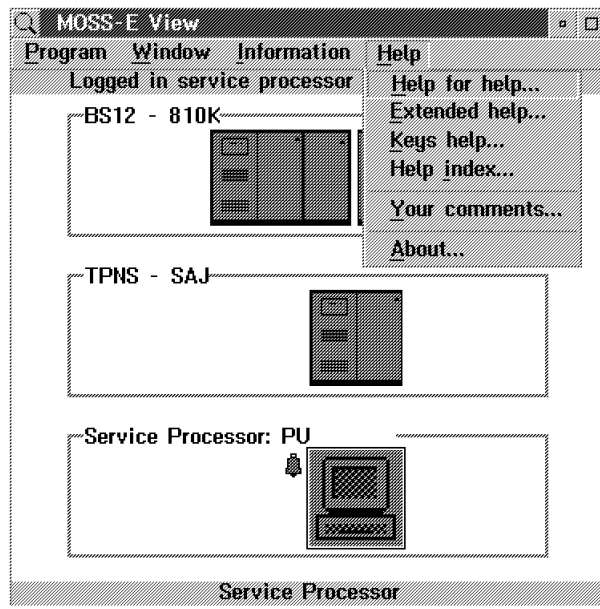
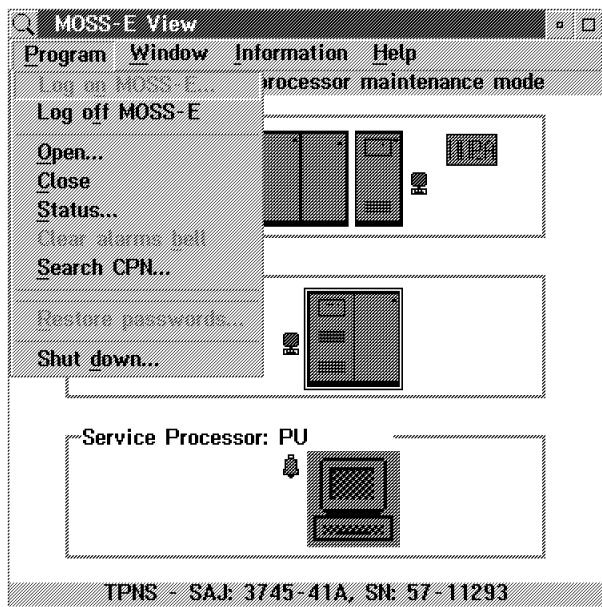
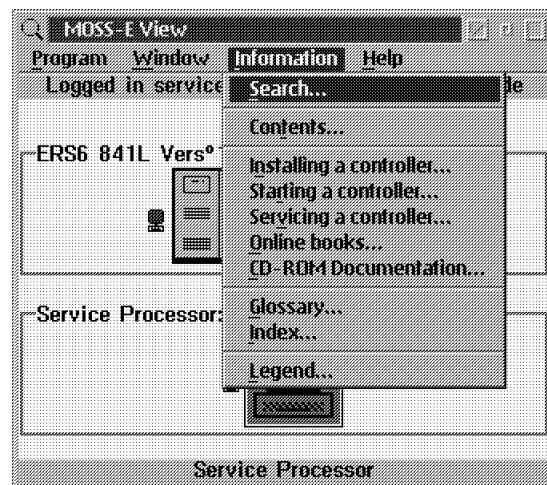

Figure 1-3. Help Pull-Down Menu
Figure 1-4. Program Pull-Down Menu
Figure 1-5. Information Pull-Down Menu
1. The **Help** option of the **title bar** of the panel (example: see Figure 1-3 on page 1-2).
From these panels, clicking on **Program**, **Information**, or **Help**, you will get all the information to manage your controller. The other options will help you find specific information (see Figure 1-4 on page 1-2, Figure 1-5 on page 1-2, and Figure 1-3 on page 1-2).
1. From the Help pull-down menu (see Figure 1-3 on page 1-2), select **Help for Help**.
1. From the **Information** pull-down menu click **Legend** (see Figure 1-5 on page 1-2).